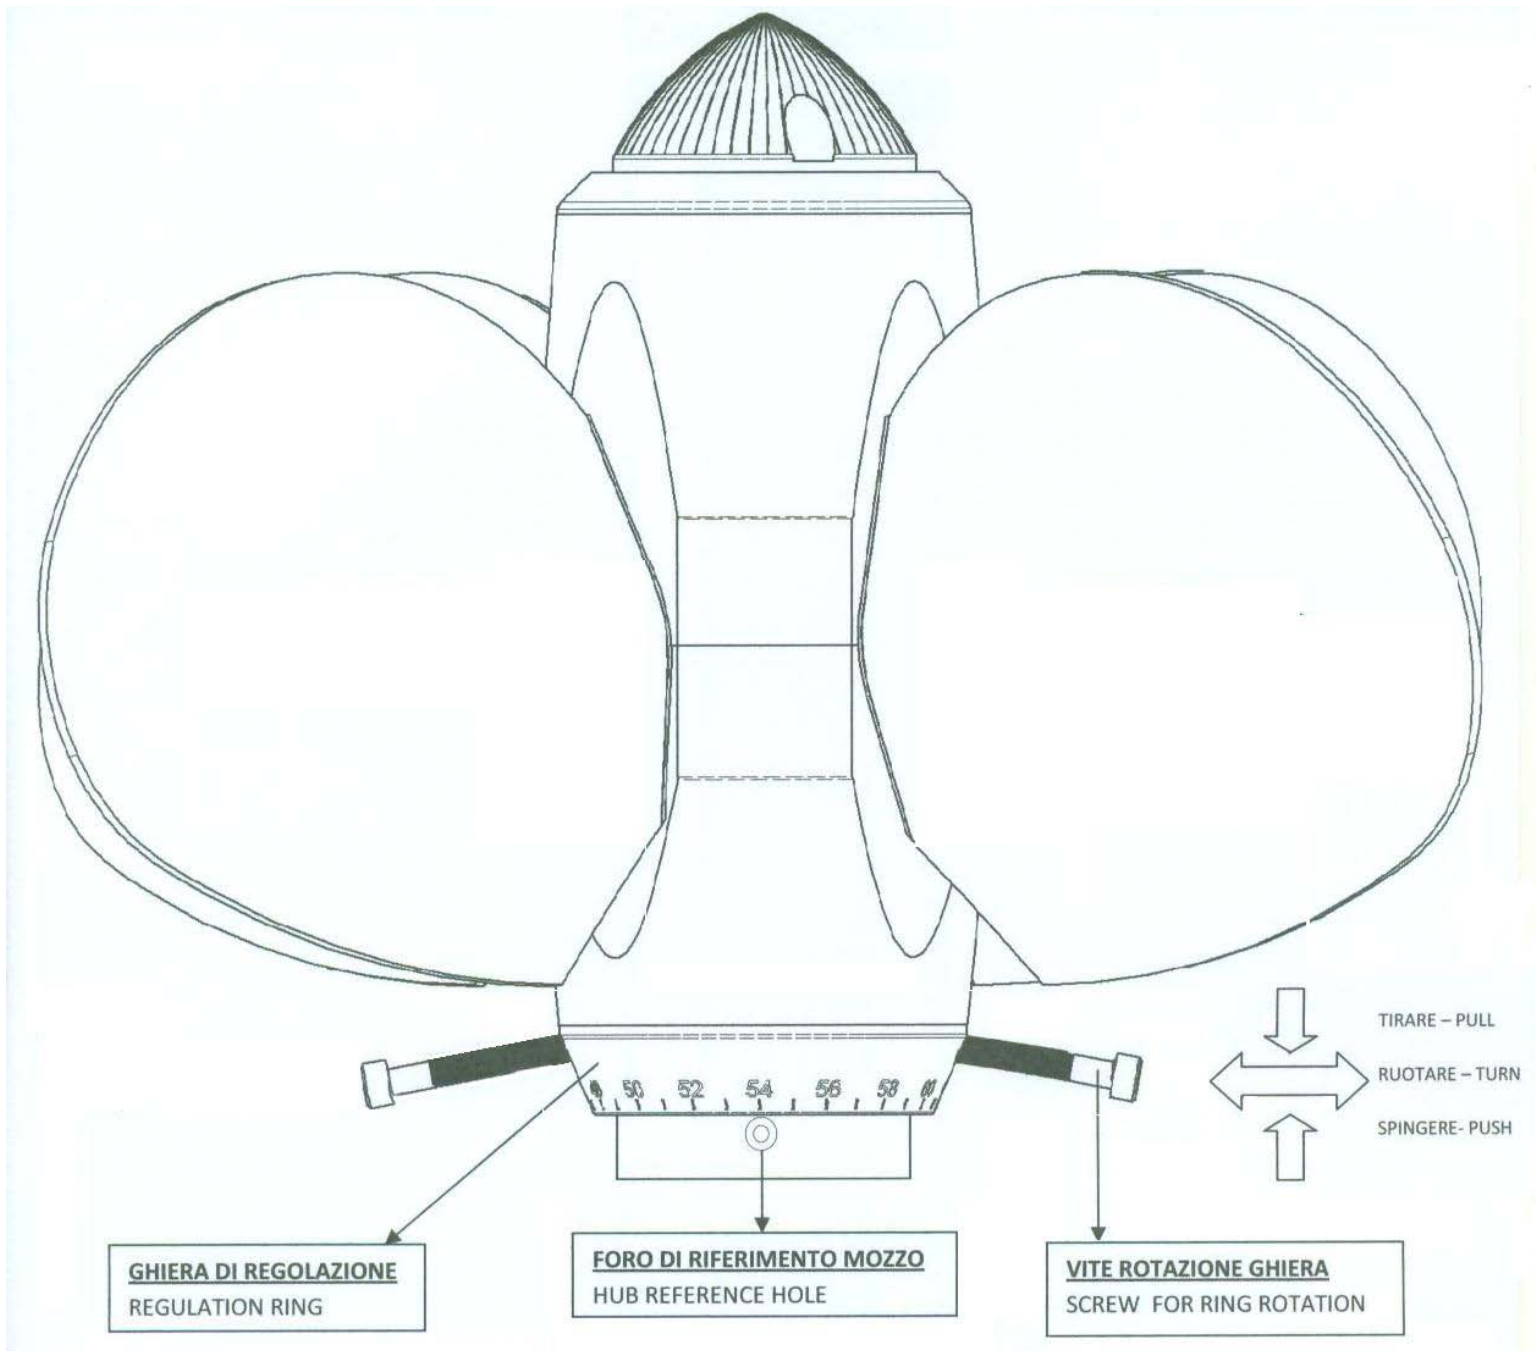

Fig. 2
- *Locate the regulation ring (fig. 2)*